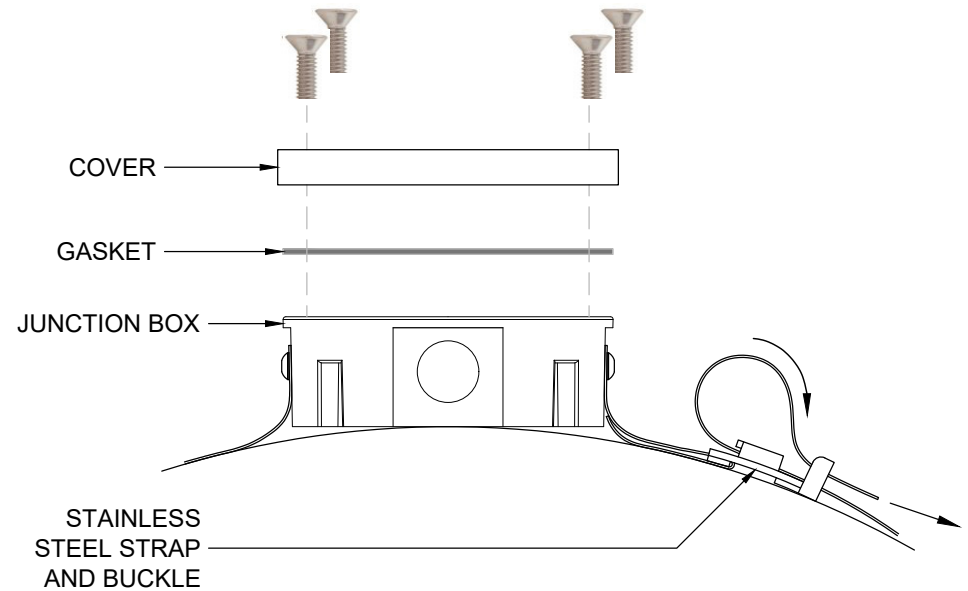

Figure 1
4. Position the Plate at desired location with strap against tree. Wrap the strap around the tree and pass it through the buckle. Pull the strap tight, folding it back against the 'teeth' of the buckle and down between the two tabs. Hammer down the tabs flat against the strap, securing it in place. Excess strap material may be cut. (Figure 1)
12. Secure the Cover with the fixture(s) and Gasket onto the Box with the screws removed in Step 2. (Figure 1)